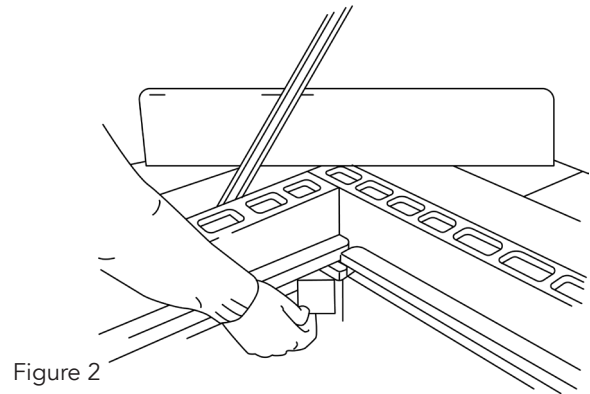

Figure 2
- Pack up the four corners to the finished level required. (Figure 2)